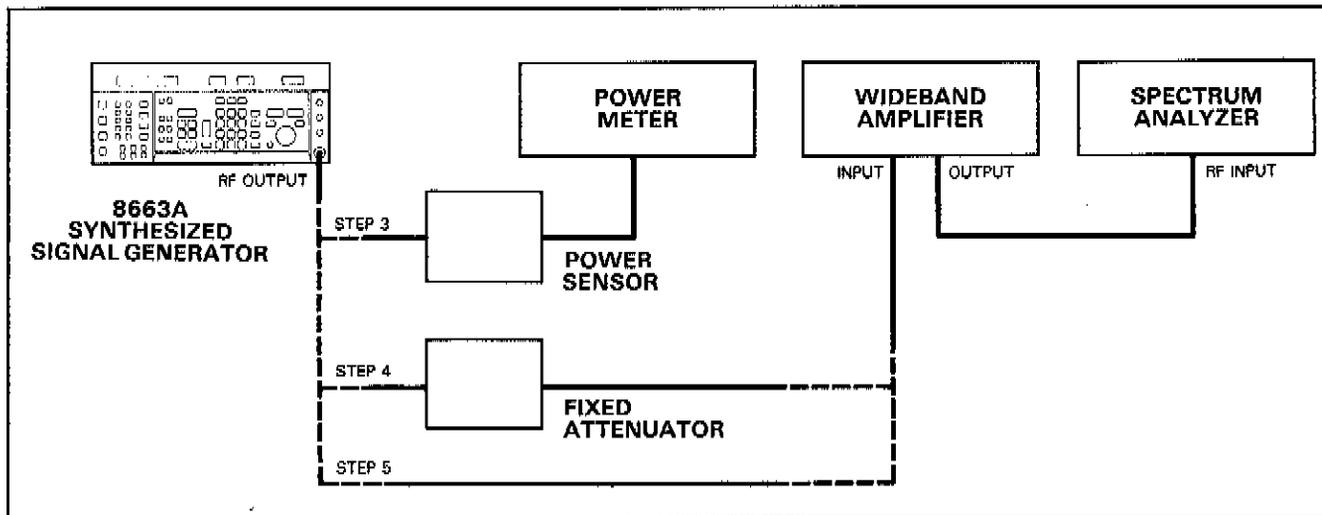

Figure 4-8. Level Accuracy Test Setup (Optional - Low Level)
1. Connect the instruments as shown in Figure 4-8.